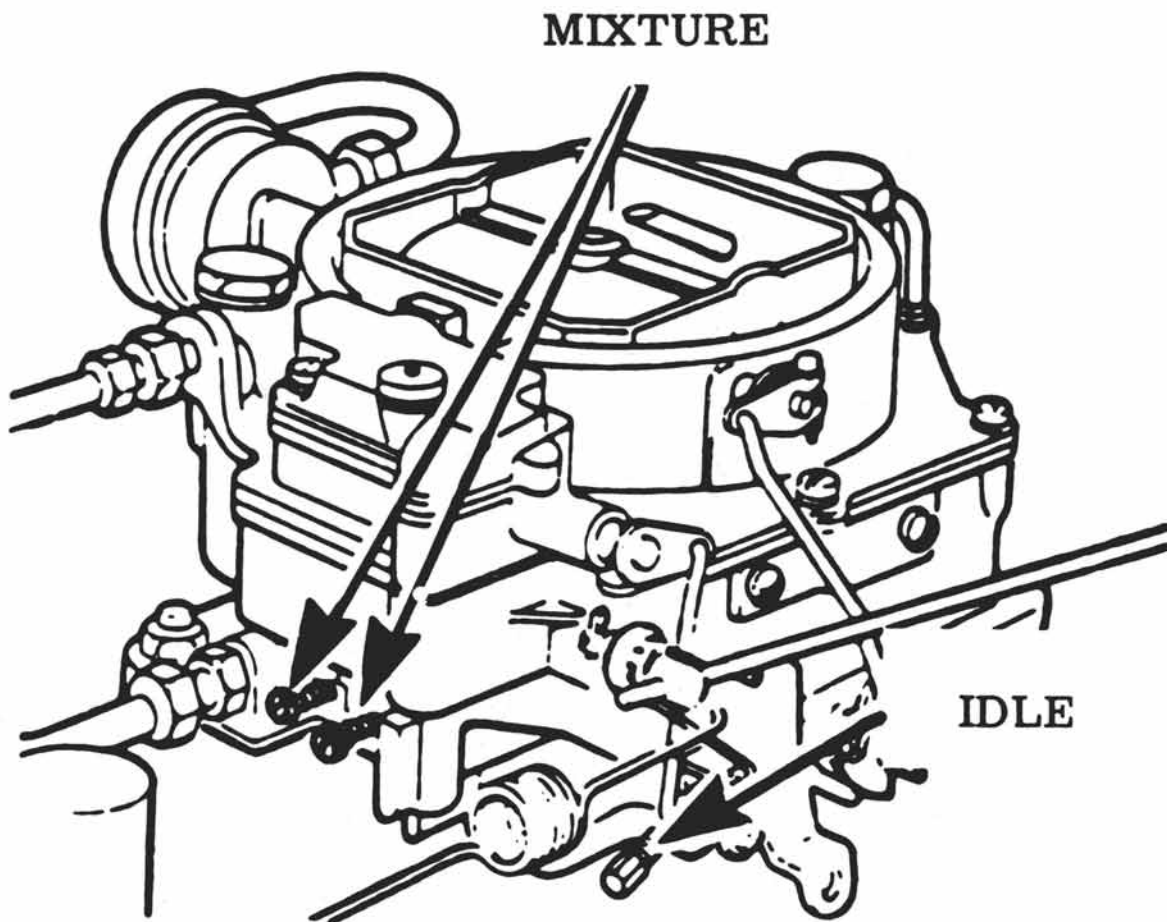

Fig. 11-C Idle Speed and Mixture Screws
3. Start engine and allow to idle. Adjust idle speed adjustment screw (Fig. 11-C) to give 450 RPM (425 on Powerglide models).
4. (On Powerglide models, move selector lever to Drive Range.) Adjust each idle mixture adjustment screw (Fig. 11-C) separately to give peak vacuum and RPM indications on tachometer and vacuum gauge.